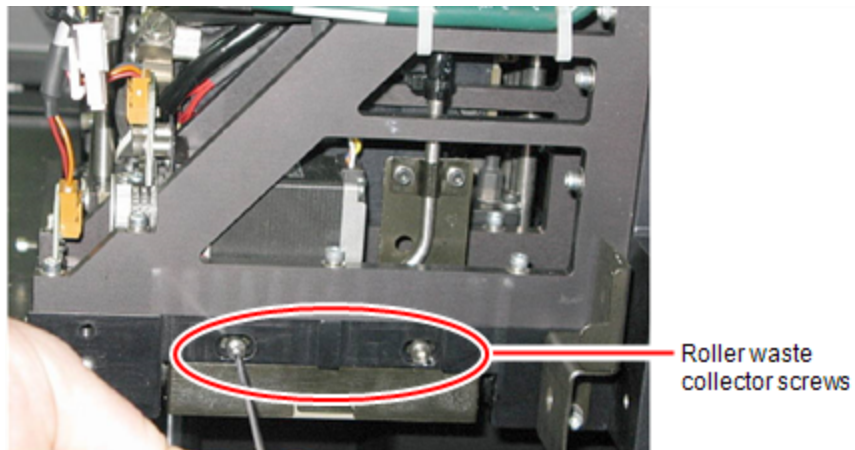

Figure 4-53 Removing the roller waste collector screws
1. Return the roller waste collector to the print block and screw on the covering (see Figure 4-53 on the previous page).